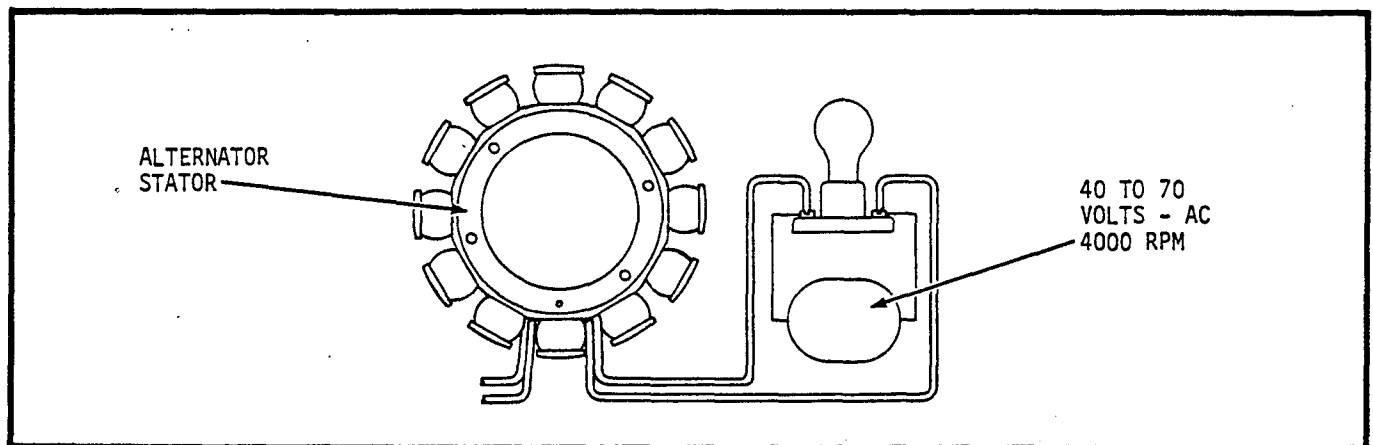

FIGURE 3-12 -- ALTERNATOR STATOR AC OUTPUT TEST
**TESTING OUTPUT-AC VOLTMETER:** Connect the AC voltmeter to the green/yellow lead and white lead. (See Fig. 3-12) Start the engine and run the speed up to approximately 4000 RPM. The AC voltmeter should indicate 40 to 70 volts.
**TESTING OUTPUT-TEST BULB:** Connect the test bulb to the green/yellow lead and white lead. (See Fig. 3-12) Start the engine and hold the speed at approximately 2000 RPM. The test bulb should have a soft orange glow. The bulb should get brighter, as the engine speed is increased. At approximately 7000 RPM, the bulb should be about normal brightness.